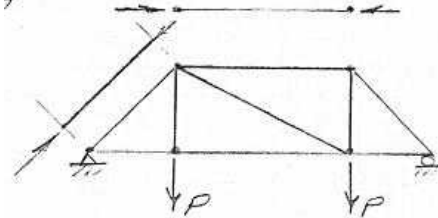

Fig.4:Members under axial forces
1. Members under axial forces such as truss members (see Fig.4). Strength of these members will be studied in Chapter 4. Stability of these members will be studied in Chapter 14.